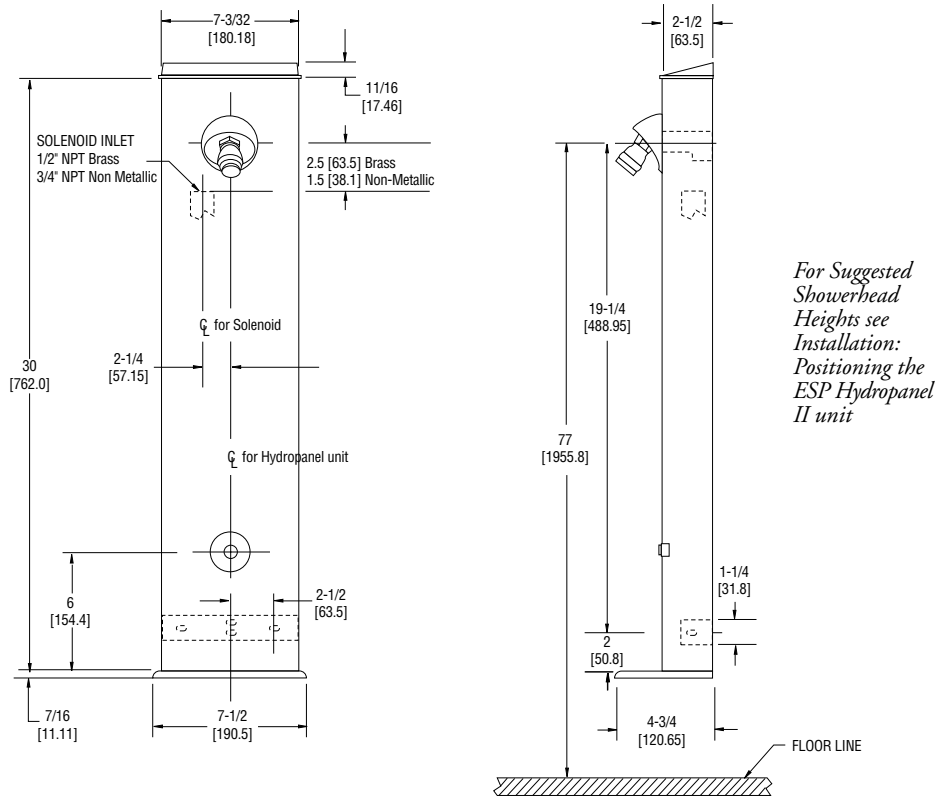
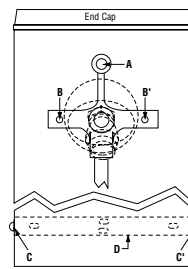

Figure 3. Front and side views - Dimensions of the ESP Hydropanel II Pushbutton Shower
Figure 4.
Determine the horizontal position of the unit according to shower room layout, and mark the centerline (Figure 3). For multiple shower applications, the recommended minimum distance between the centerline of two units is 36 inches.
The piping and Hydropanel II shrouding come pre-assembled (Figure 4). To detach, remove the screws at the shower-head (A) and bottom bracket (C and C'). Slide the piping out of shrouding; the showerhead remains part of the shroud.
The bottom bracket (Figure 4,D) will attach to the wall 25-1/2" below showerhead height (see Figure 3). Use the bracket as a template to mark positions for two mounting holes. Drill holes and attach the bracket.
The chrome plated end cap (Figure 4) on top of the shrouding has a section marked to be broken out for vertical and horizontal piping clearance. To remove the marked piece, hit it sharply with a hammer. Do not remove the entire end cap from the shrouding.
Use screws to attach the shrouding to the piping bracket and to bottom mounting bracket (Figure 4, A and C).